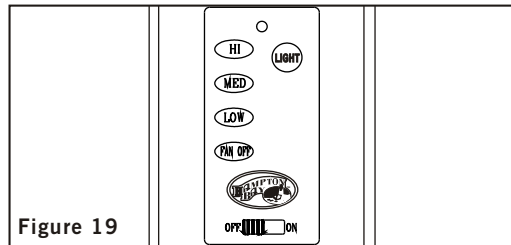

Figure 19
Step 2. Pass the blue and white wires from the fan through the side hole (from the center) of the light assembly. Place the light assembly against the light cup cover plate and rotate to align the key holes to the two screws from the light cup plate. Turn the light assembly counterclockwise until secure. Install the third screw previously remove and securely tighten all three screws. (Fig. 19)
Step 3. Connect the blue wire to the black wire that has the female connector. Repeat process with the remaining two white wires. (Fig. 19)
Step 4. Install the halogen bulb included with your fan, make sure not to touch it with your bare hands. The oil residue from your hands will shorten the life of the halogen bulb. If you accidentally come into direct contact with the bulb, wipe thoroughly with a clean, lint free, cotton cloth. **DO NOT EXCEED THE MAXIMUM WATTAGE.** (Fig. 19)